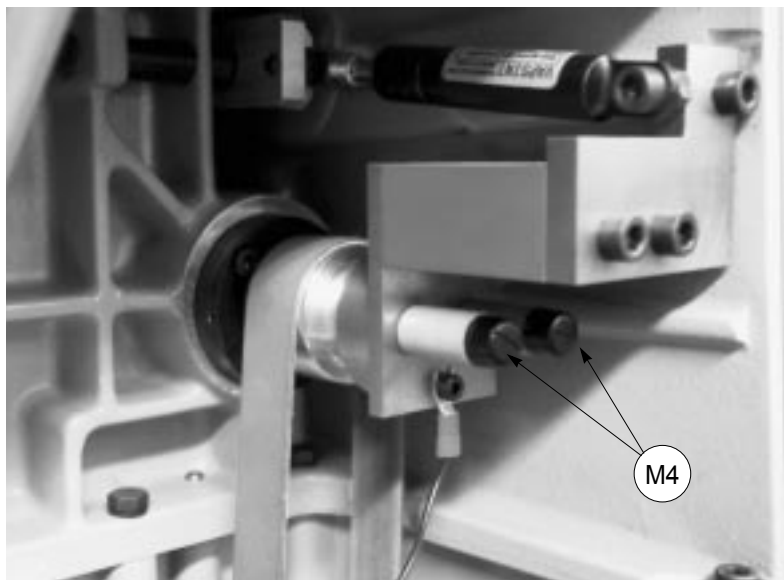

Fig. 65
- 2) unscrew the two brush caps (M4) (fig. 65), remove and fit two new brushes.